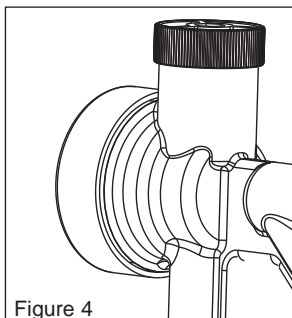

Figure 4
6. Once the desired pressure setting is reached turn the lock knob clockwise until it is finger tight (see figure 4).